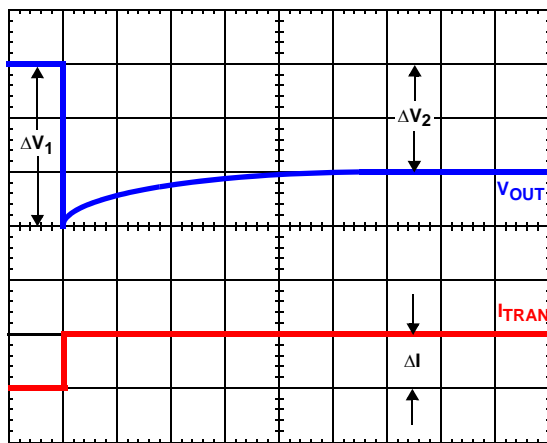

FIGURE 22. TIME CONSTANT MISMATCH BEHAVIOR
Due to errors in the inductance or DCR, it may be necessary to adjust the value of  $R_1$  and  $R_2$  to match the time constants correctly. The effects of time constant mismatch can be seen in the form of droop overshoot or undershoot during the initial load transient spike, as shown in Figure 22. **Do the following steps to ensure the R-C and inductor L/DCR time constants are matched accurately.**
- Record  $\Delta V_1$  and  $\Delta V_2$  as shown in Figure 22.